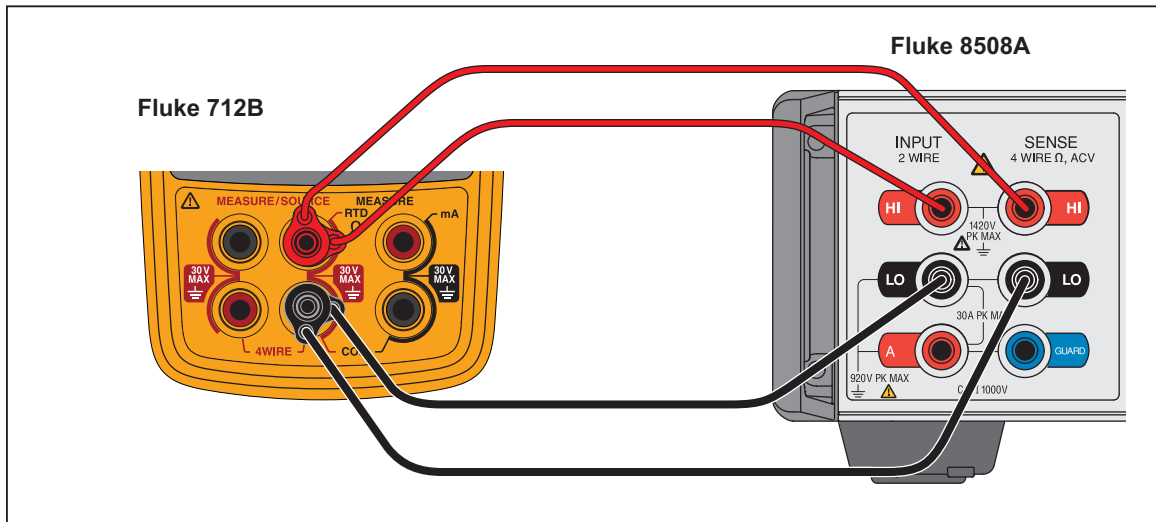

Figure 2. Verify 712B Ohms Source
1. Make connections between the 712B and the 8508A, as shown in Figure 2.